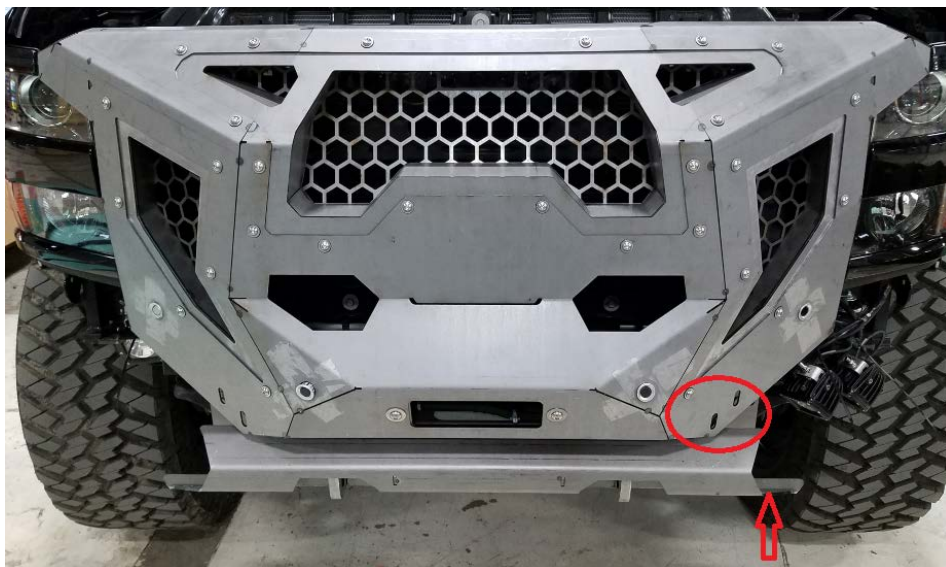

Figure 19a
- F. Install Wings using 3/8" x 1" (Qty 8) bolts (Figure 19a & b). Each wing will attach to the center section with 2 bolts and to the winch tray with 2 bolts